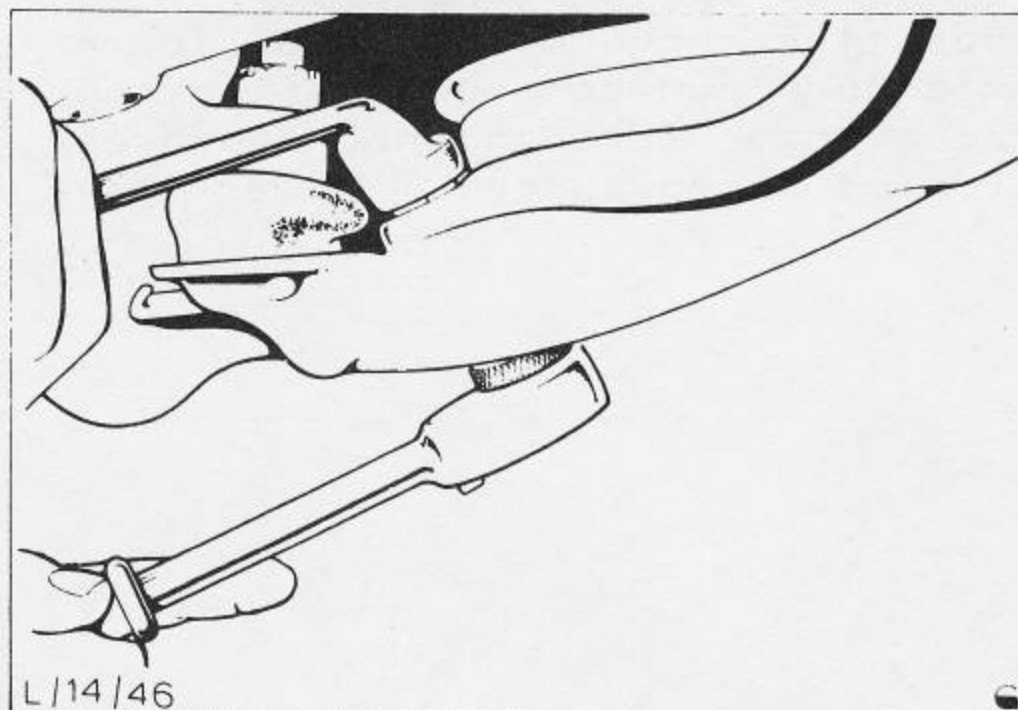

Fig. 30
7. Remove the two nuts and bolts securing the leading link to the lower arm. Fig.30